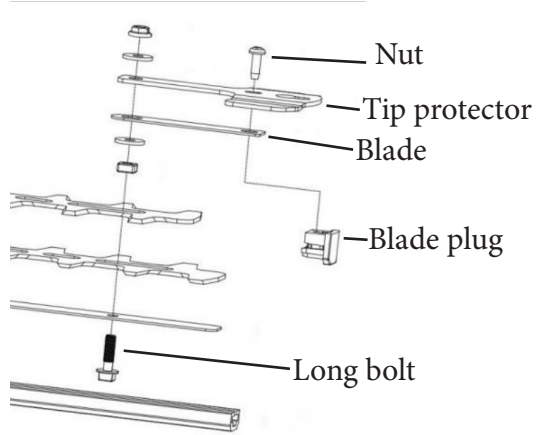

Fig.7B
- Align the tip protector with the blade plug on the blade and mount it into place. Secure it with a new long bolt and nut as well as the saved washer, bushing and nut as shown in Fig. 7B.